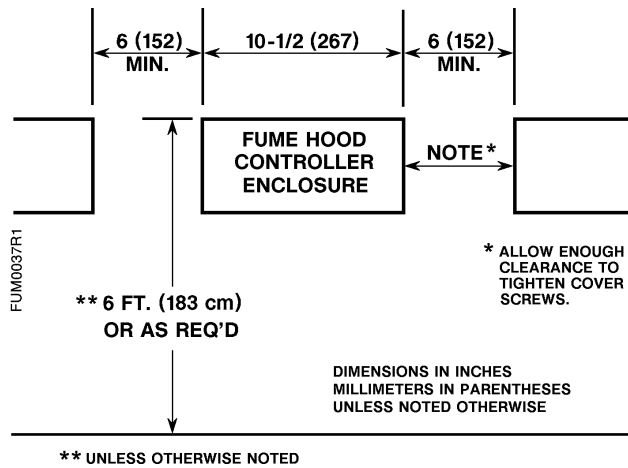

Figure 2. Enclosure Wall Placement.
3. On the wall or the surface on which you will mount the enclosure, measure and mark a level line 6 feet (1.8m) above the floor. See Figure 2.